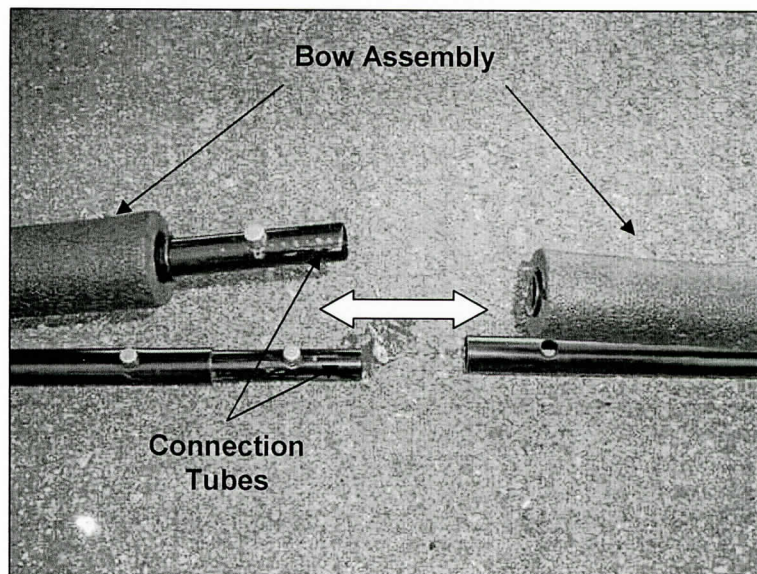

Figure 11
11. Assemble the two halves of the Bow Assembly using the included Connection Tubes with push buttons (Figure 11). **NOTE:** It may be helpful to use a screw flat screwdriver to push down the buttons while sliding Bow halves together. Also, it may be helpful for two persons to slide both sides of the Bow Assembly forward simultaneously.